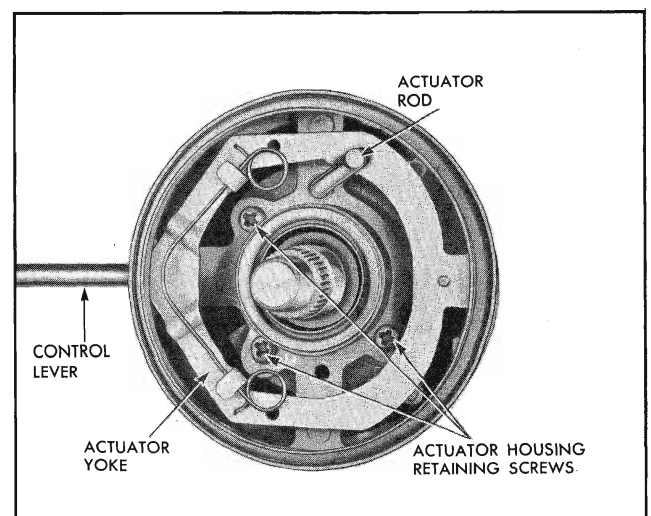
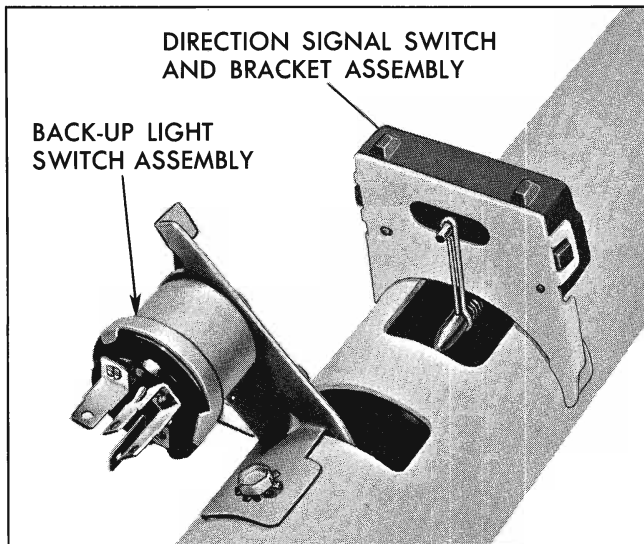

Fig. 11-129 Direction Signal Control
Fig. 11-130 Direction Signal Switch
The direction signal actuator mechanism is located in a housing just below the steering wheel (Fig. 11-129). The electrical switch is mounted on the steering column jacket just below the steering column to instrument panel bracket (Fig. 11-130). It is actuated by a rod inside the steering column jacket.
4. Remove shifter tube trip lever retaining screw and washer and remove lever in opening of steering column housing (Fig. 11-129).